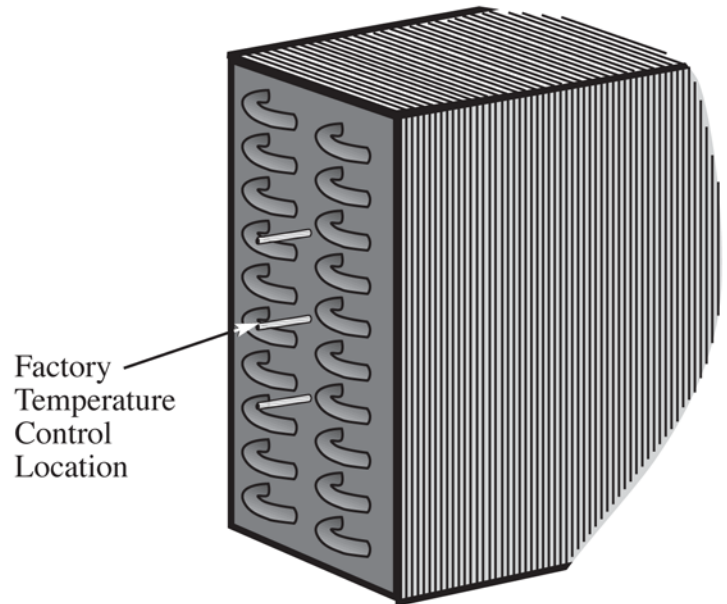

Figure 1
- B.** If the above does not give desirable results, further adjustment is possible in the field. Disconnect power to the cabinet. Remove the full length back panel that the temperature control is mounted to: (See figure 1 & 2).